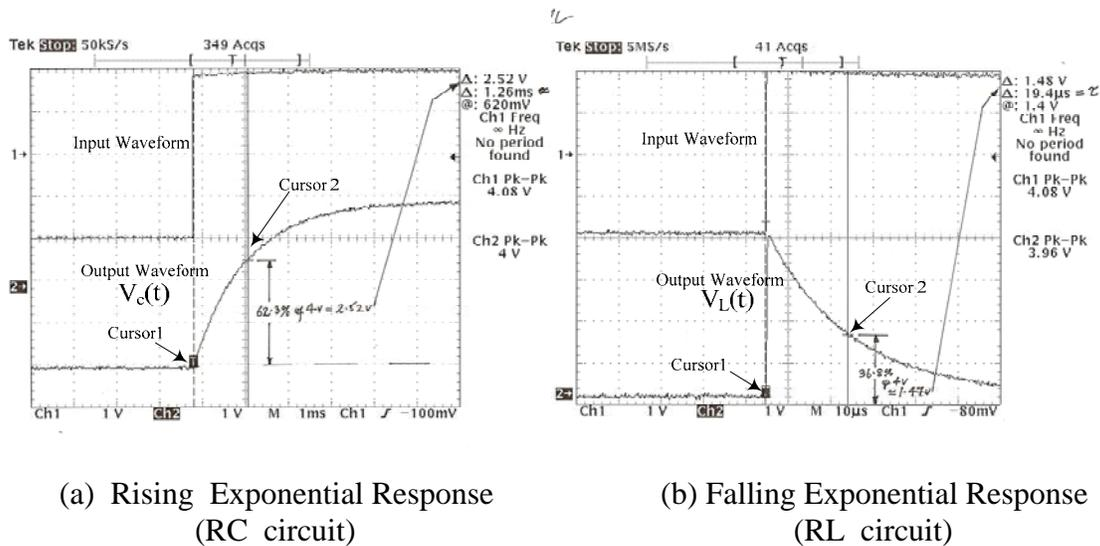

Figure 4.9
Next, as outlined in the tutorial section, adjust the square-wave frequency on the FG to an appropriate value ($\sim 1/40\tau$) and the time/div switch on the DSO, so that a 'step response' display is seen. [eg: If the 'theoretical' τ is 95 μs , then try a square-wave frequency of $1/40(95\mu)$ or ~ 260 Hz. Note that the DSO will read the frequency of the square-wave only when a few cycles are displayed.]. Adjust the Ch2 sensitivity to obtain a good-sized display for cursor measurement. Position the 'paired' cursors **on the Ch2 waveform** to measure τ : If the H-bar cursors are positioned so that they are at 'zero' & at $\sim 63.2\%$ of the 'final' value of the 'step', then V-bar cursor readout will correspond to τ . A typical display is shown in Figure 4.9(a). Obtain a printout for the report. Compare the measured value of τ with the theoretical value and comment on any differences between the two. Simulate the circuit (in the report) using V_c as output, remembering to use a 4 volt pulsed voltage source for V_s and to perform a 'transient response' analysis. {See Appendix-E}. Compare the result with the experimental result.
- Make the connections shown in Figure 4.8 (b) on the breadboard. The effective R used can either be a single resistor or a resistor network designed to obtain some specific value. Use available R values to obtain a theoretical time constant in the range of 20 μ s to 200 μ s [For example $(0.02)/(1020) = 19.6 \mu$ s or $(0.02)/(110) = 182 \mu$ s]. Repeat the procedure of Step 2 to measure the time-constant of the ‘falling’ response. If the H-bar cursors are positioned so that they are at the ‘initial’ value & $\sim 36.8\%$ of the ‘initial’ value of the ‘step’, then V-bar cursor readout will correspond to τ . A typical display is shown in Figure 4.9 (b). Obtain a printout for the report. Compare the measured value of τ with the theoretical value and comment on any differences between the two. **Simulate** the circuit (in the report) using V_L as output, remembering to use a 4 volt pulsed voltage source for V_s and to perform a ‘transient response’ analysis. {See Appendix-E} Compare the result with the experimental result.